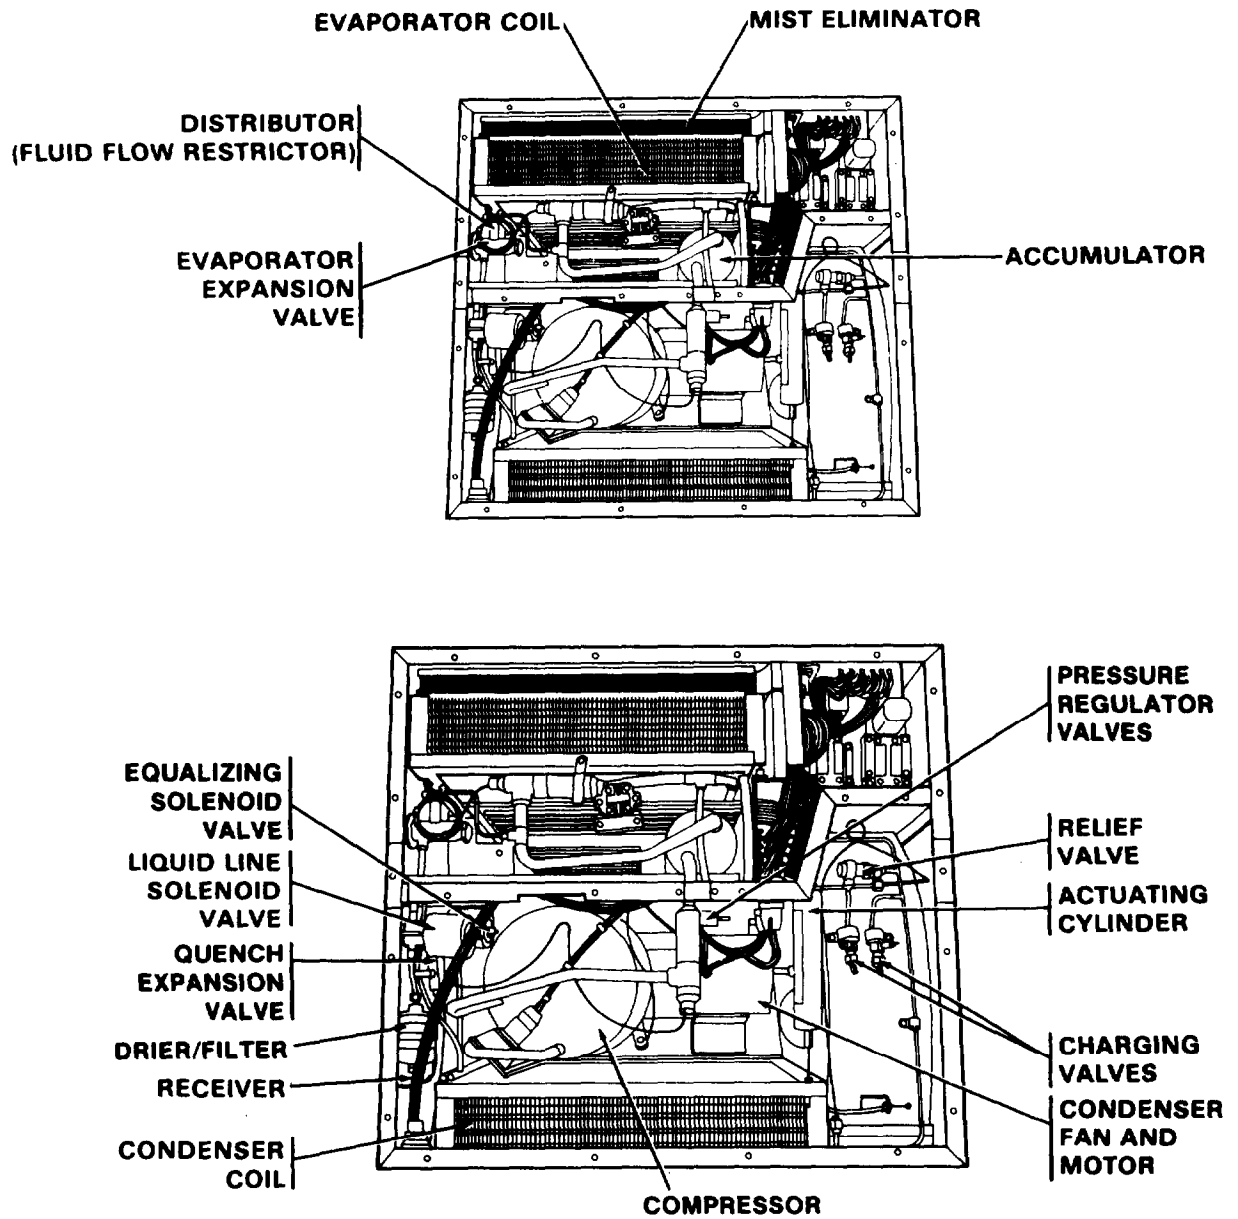

Figure 1-2. Air Conditioner top view, top covers removed
a. Evaporator Section. The evaporator section (figure 1-2), located in the front of the air conditioner, contains intake and discharge air louvers, air filter, mist eliminator, evaporator coil, evaporator motor and fans, heater elements, heater thermal protector, primary expansion valve, condensate drain hose, electrical control panel and controls, main input power connector, control module, and the ventilation air damper door and control knob. The evaporator fan draws air into the unit, from the space being conditioned, through the inlet louver and air conditioning filter, or
b. **Condenser Section.** The condenser section (figure 1-2) located in the rear part of the air conditioner contains the condenser coil, condenser coil guard, two condenser motors and fans, motor compressor, condenser, condenser fan housings and louvers, louver actuator, ventilation air duct, fresh air filter and vent screen, thermal switch, refrigerant liquid sight indicator, solenoid valves, expansion valve, pressure relief valve, system access service valves, filter drier, refrigerant liquid receiver, accumulator, associated electrical wiring and refrigerant tubing and an alternate power input connector. The condenser fan speed controlled by a thermal switch located on the rear of unit. At ambient temperatures of 100°F ±5°F (38°C ±3°C) or higher, the condenser fan motors will operate at high speed (3750 RPM); and at ambient temperatures below 100°F (38°C) , the motor will operate at low speed (1800 RPM). Due to possible thermal lag, the change over may be slow to react when the ambient temperature drops below the 100°F (38°C) changeover point.